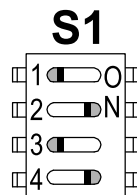

Figure 12.1 DIP Switch S1 Settings for the Self RAM Check
1. Set DIP switches as shown in Figure 12.1.